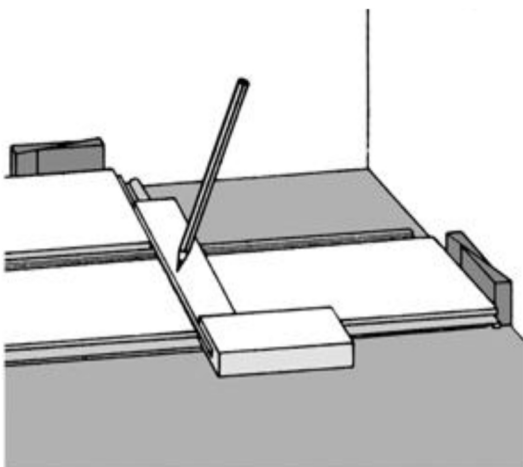
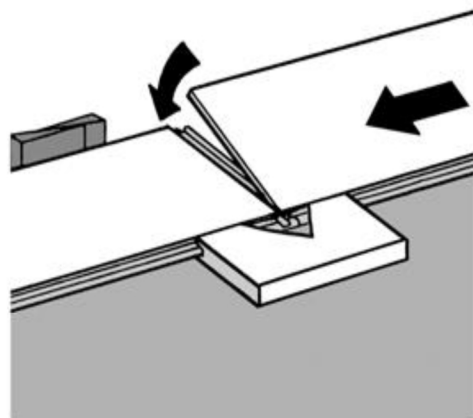

Fig.2
Fig.3
2) Measure the row before laying the first panel and cut the first panel according to the length required for the last panel, ensure that the last panel is a minimum of 8" (20cm) (Fig.2). Install the first row by laying the first panel in the left-hand corner of the room with the tongue facing the wall, leaving the expansion gap; 1/2" – 5/8" (12.5mm-16mm) as required between the panels and the wall. Ensure to include the tongue in the measurement when allowing for the expansion gap or if preferred, you can cut off the tongue on the first row. Lock the ends of the panels together with the help of a fitting block (a panel off cut with a lengthwise tongue profile) until the first row is finished (Fig.3).